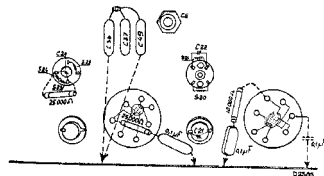

Fig. 3.
4. Place A.V.C. out of action by short circuiting C49 and C36 (see fig. 3).
8. Damp S20 with 10,000 ohms and 0.1  $\mu\text{F}$  in series between the anode of L1 and the chassis (see Fig. 3). Damp S23/24 with 25,000 ohms (see Fig. 3).